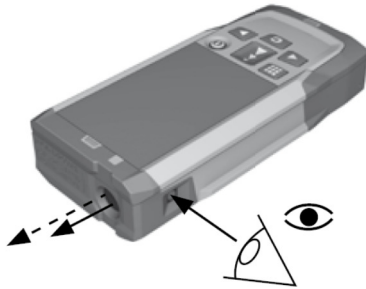

Figure 6
2. With the laser location marker activated, look through the viewing hole of the laser unit (shown in Figure 6). This will allow you to see when the laser is in line with the OHL.